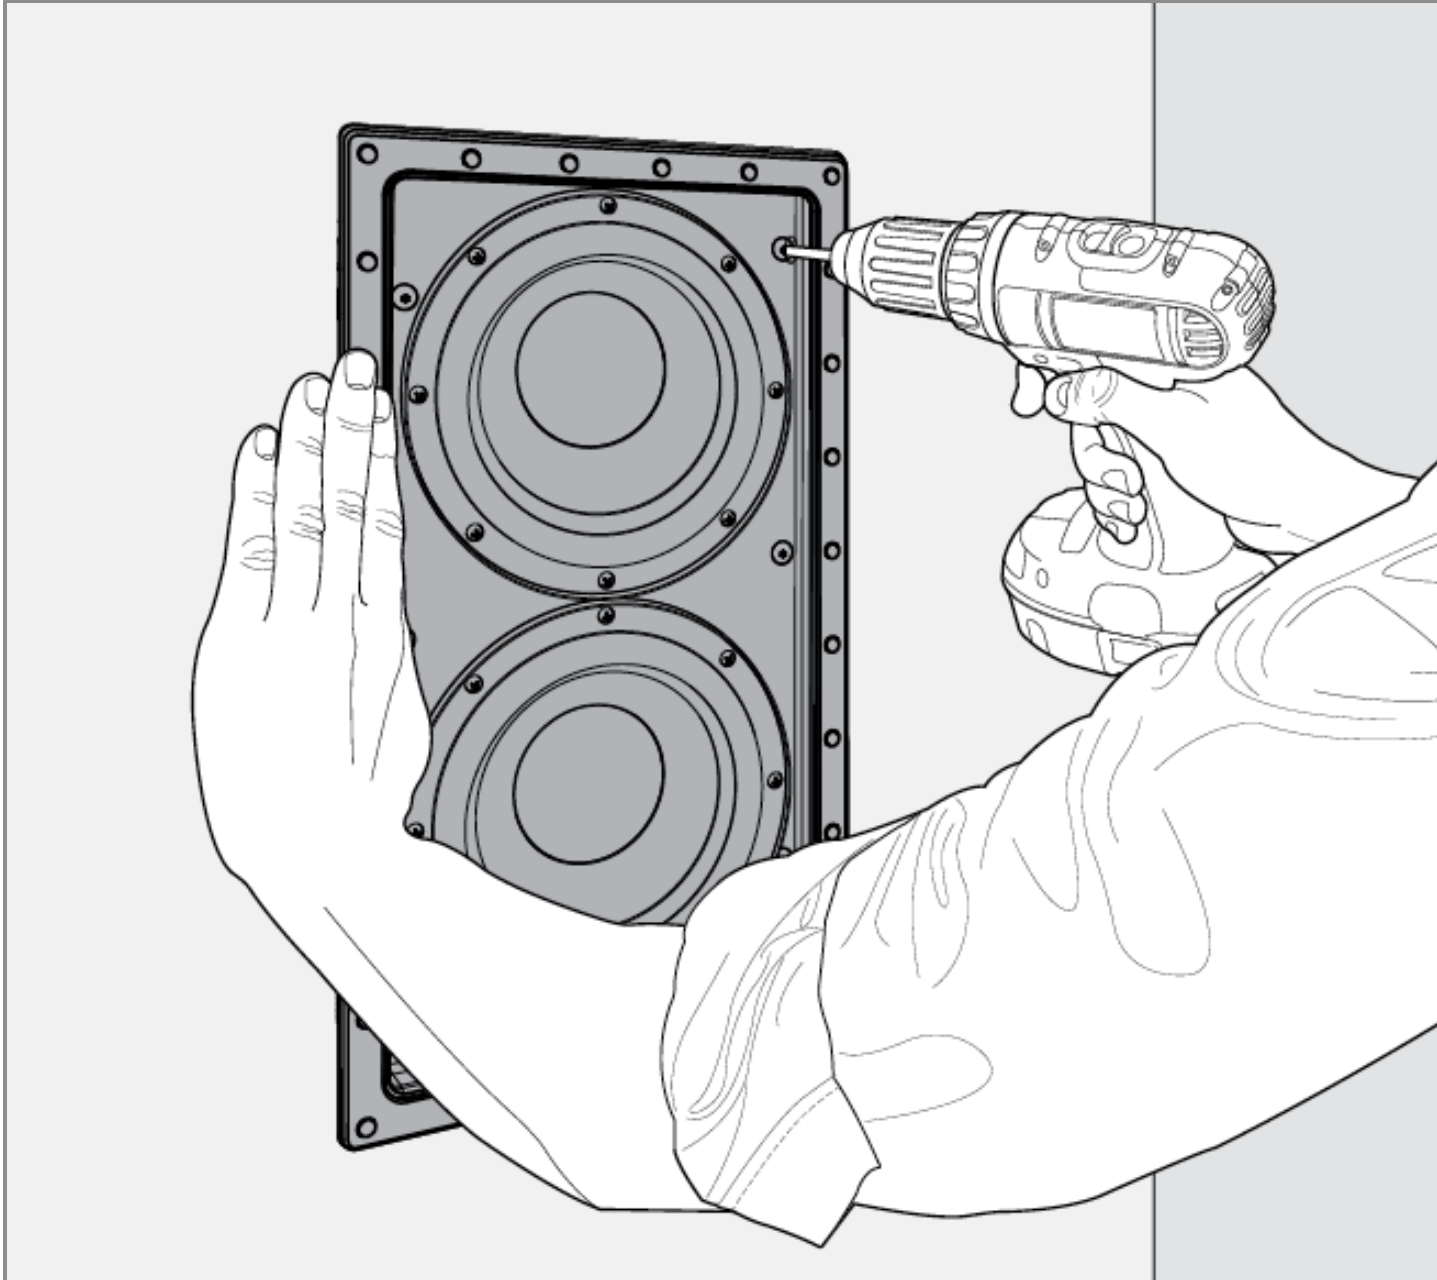
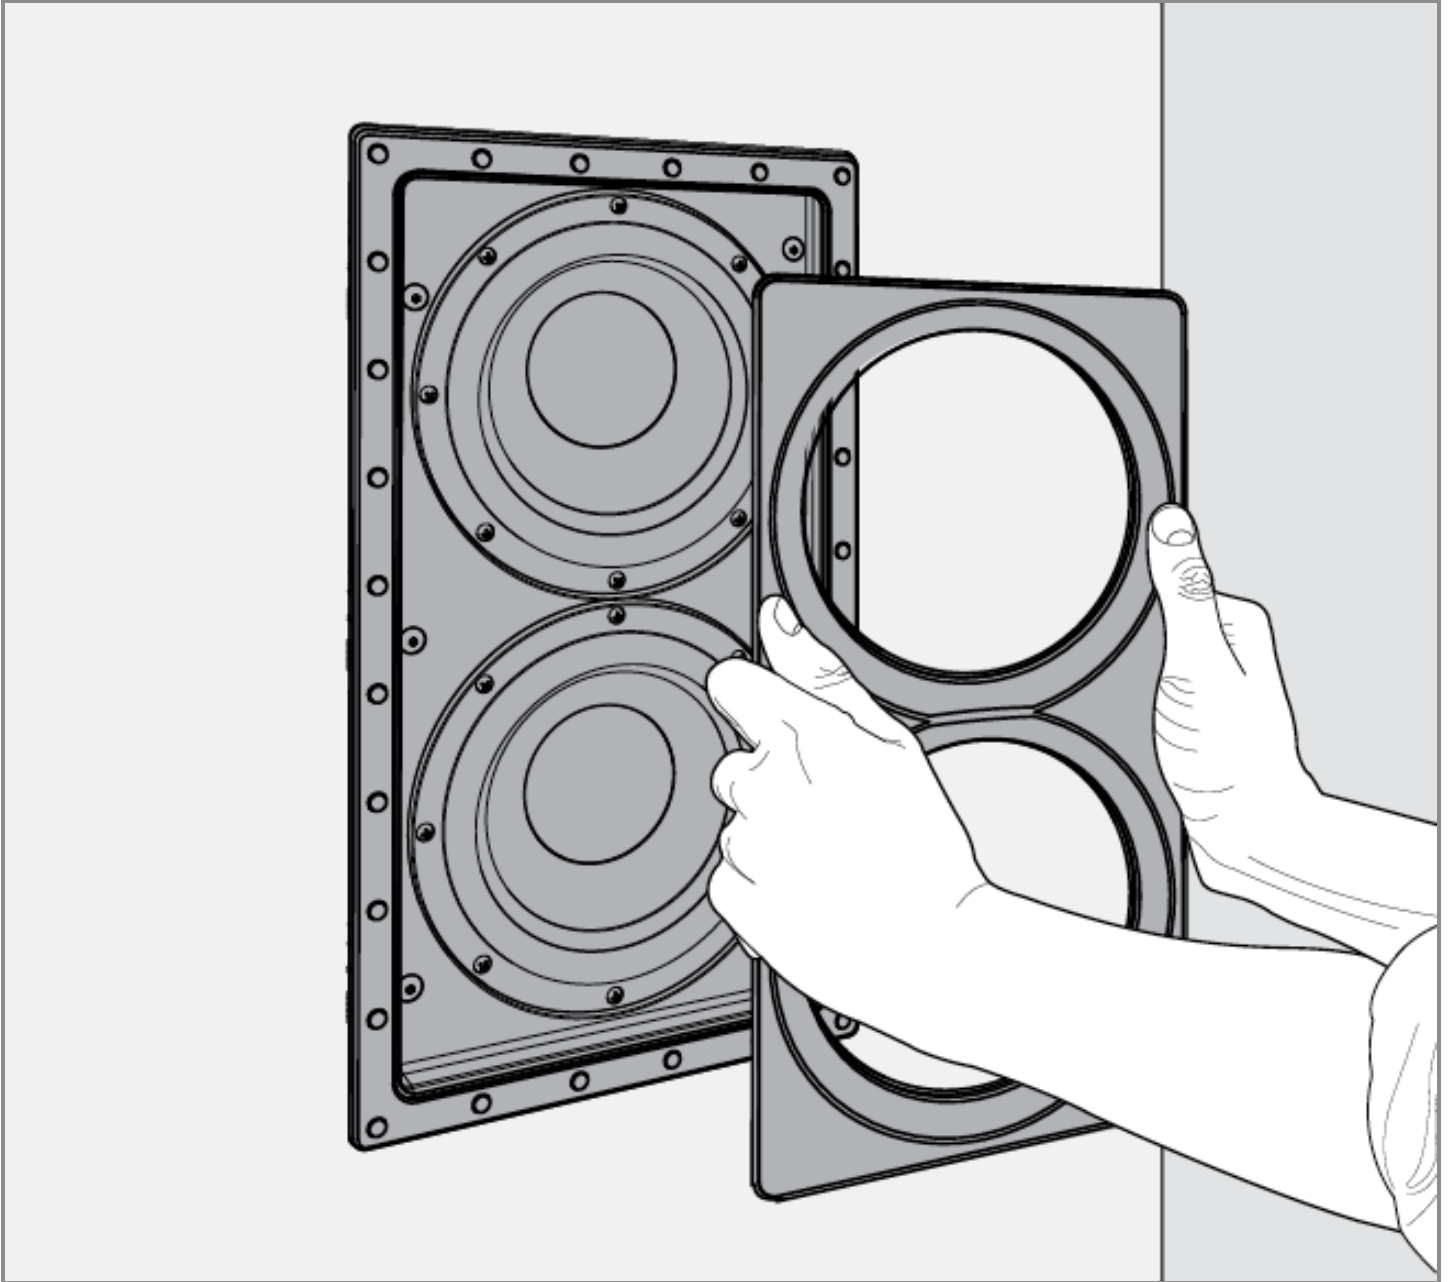

Fig.4c
Fig. 4d
4) Supporting the assembly with one hand, tighten each screw (Fig. 4c). Stop tightening when you sense resistance. 5) Gently press the baffle onto the front face of the speaker (Fig. 4d). The magnets will ensure correct attachment.